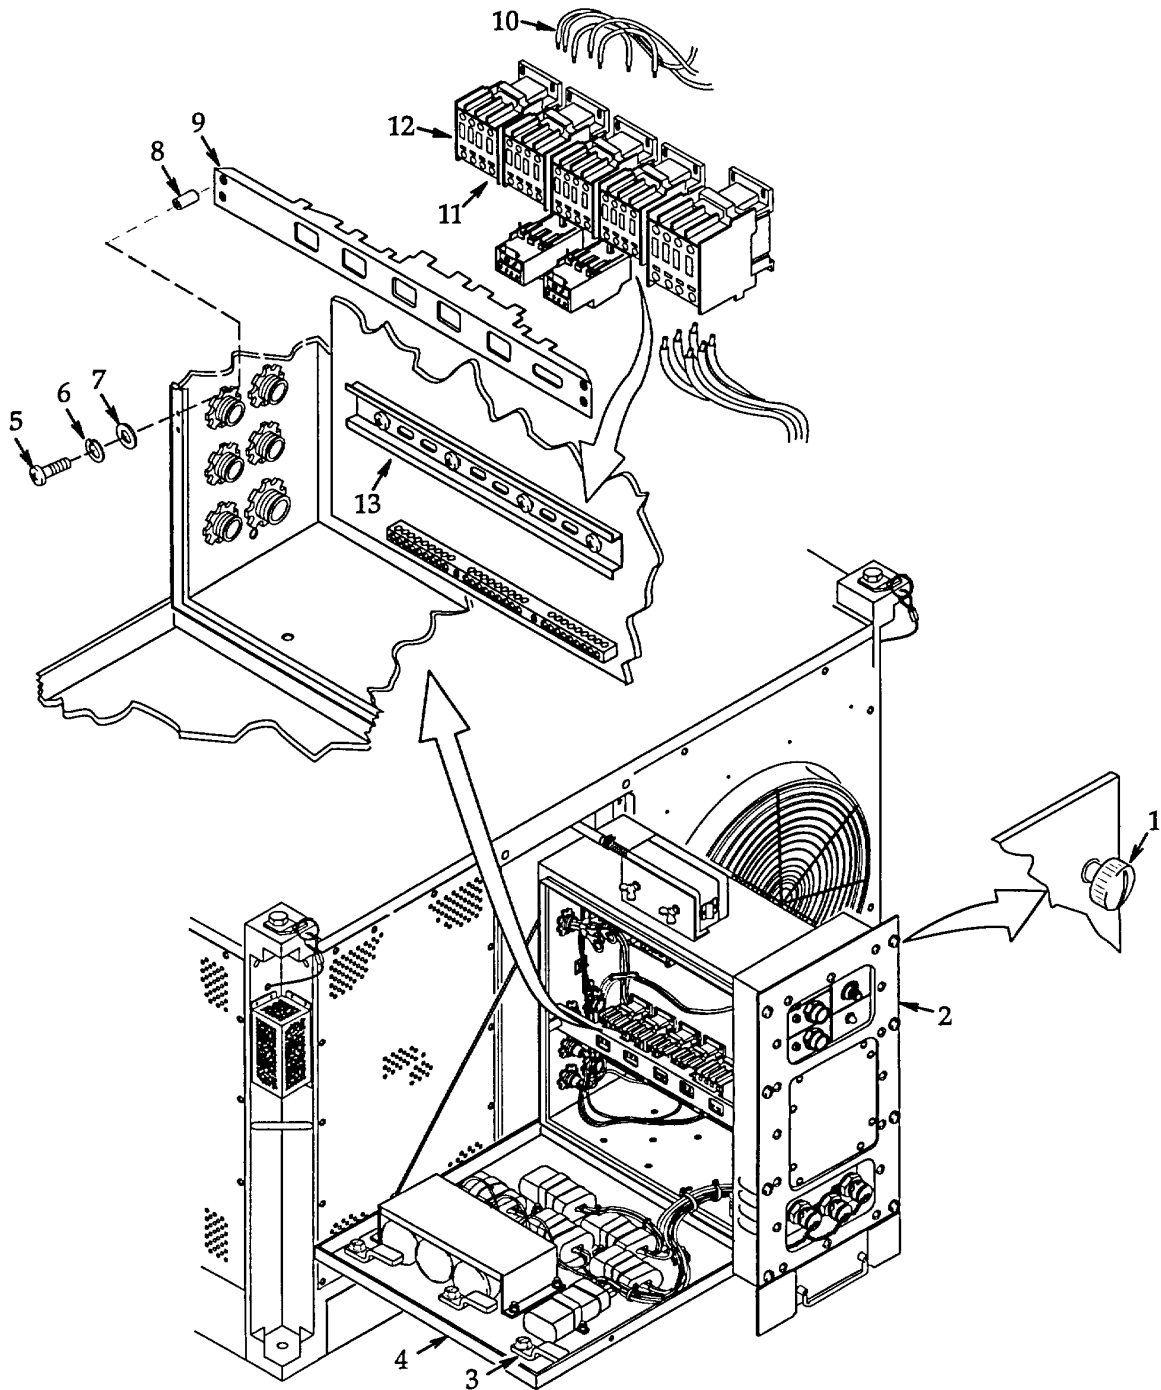

Figure 4-29. Relays (K1 thru K5).
- a. **Removal.** See figure 4-29.
- (5) If necessary, remove overload relay per paragraph 4.31.
- (6) Tag and disconnect wire leads (10) as necessary.
- (7) Push and hold latch (11) down to release then pull bottom of relay (12) out and up off rail (13) to remove.
- b. **Installation.** See figure 4-29.
- (1) Hook top of relay (12) on rail (13) then push bottom in until latch (11) engages.